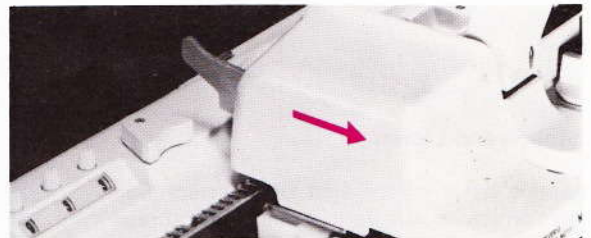

Fig. 18
- by-passes the row counter when pushed in (Fig. 18).